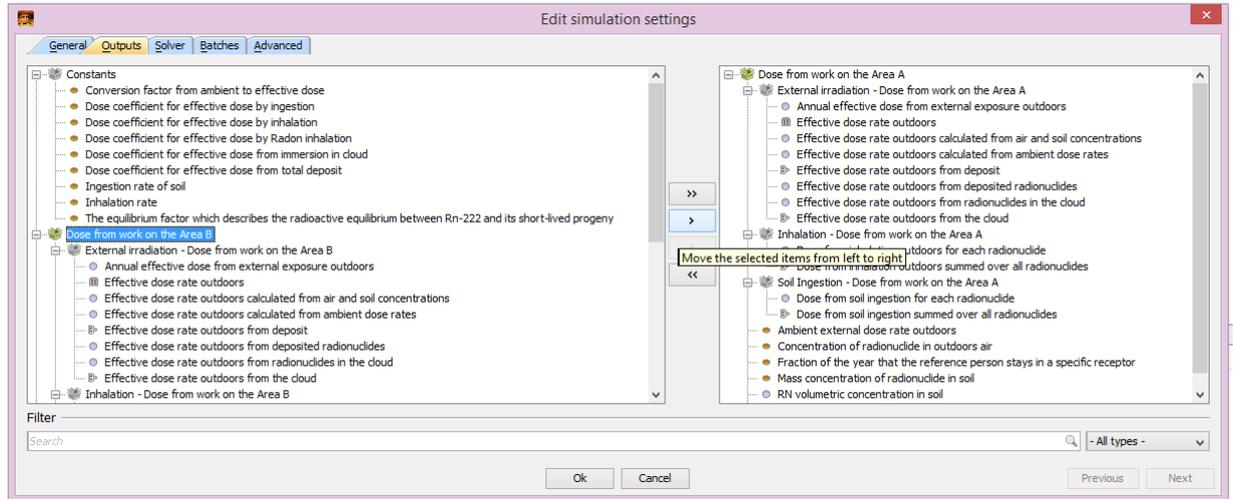

FIG 19. Adjusting the list of NORMALYSA model outputs
3. Choose '*Dose from work on the Area A*' sub-system and click '>' button (FIG 19).